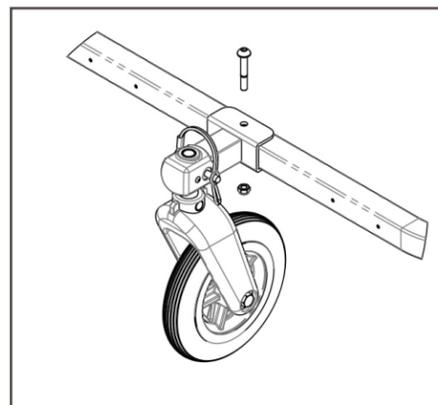

Figure 31
4. Slide wheel bracket over the frame, allowing the locator pin to fit in the small hole in the front face of the frame tube (Fig. 31).